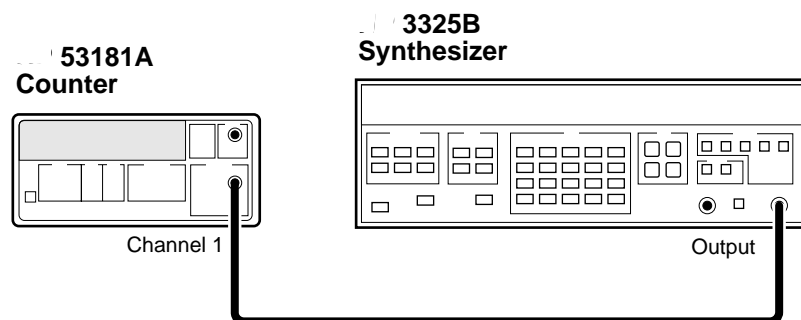

Figure 1-16. Peak Volts Test Setup
- 1 **Connect the equipment as shown in Figure 1-16.**